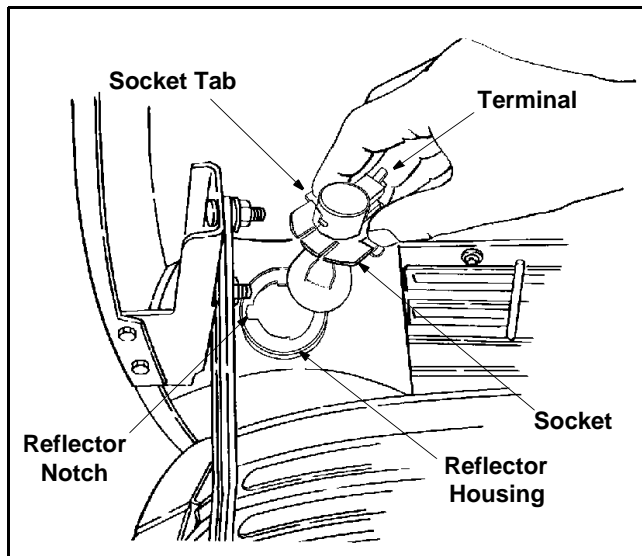

Figure 23
- Unplug the wire harness leads from the lamp socket terminals. See Figure 23.